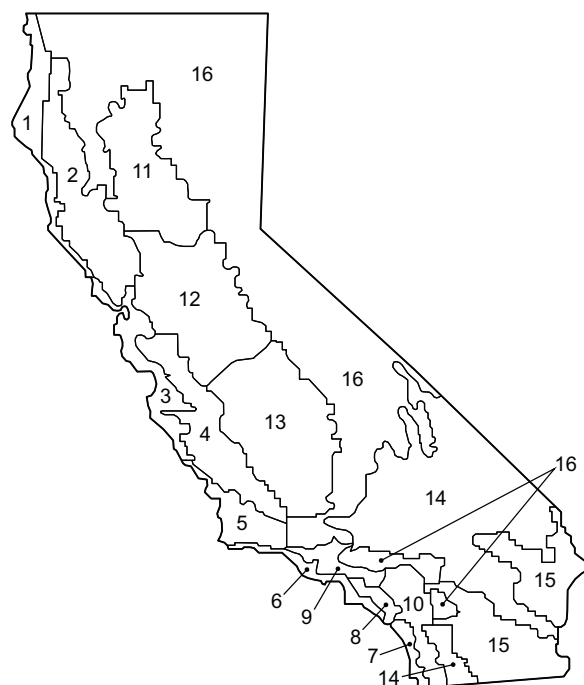

Fig. 75 – California Title 24 Zones
b. Refer to Fig. 75 for map of California Title 24 zones.